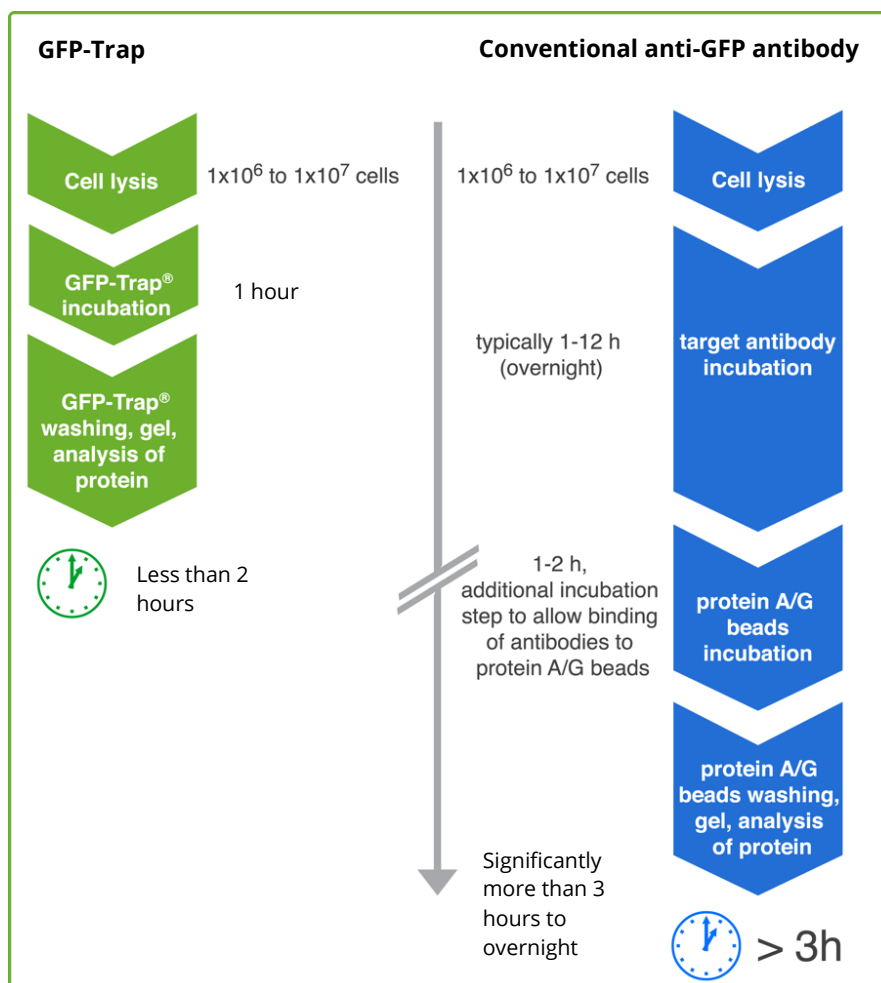

Figure 2: Immunoprecipitation workflows of GFP-fusion protein using GFP-Trap (left) and conventional anti-GFP IgG antibodies (right).
The IP protocols using either the GFP-Trap or conventional anti-GFP-antibodies are shown in Figure 2. In general, both workflows have (1) cell lysis, (2) binding of GFP-fusion proteins to the affinity resin, and (3) washing of non-bound and unspecific proteins in common.